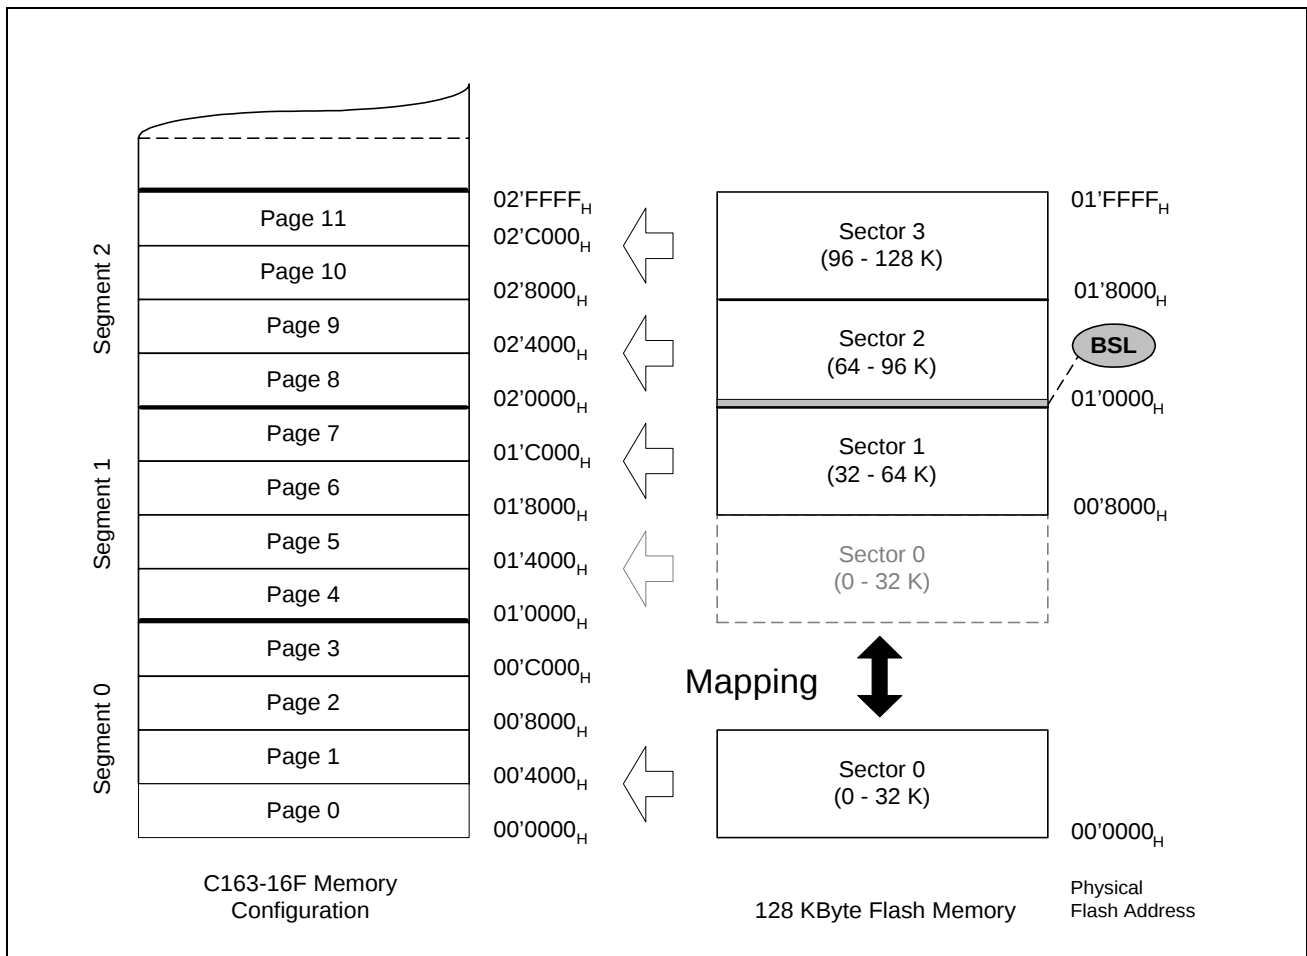

Figure 1
- It must be considered that the bootstrap loader code resides *unprotected* in the internal Flash memory at location 02'0000_H, which is the bottom of Flash sector 2 (figure 1).